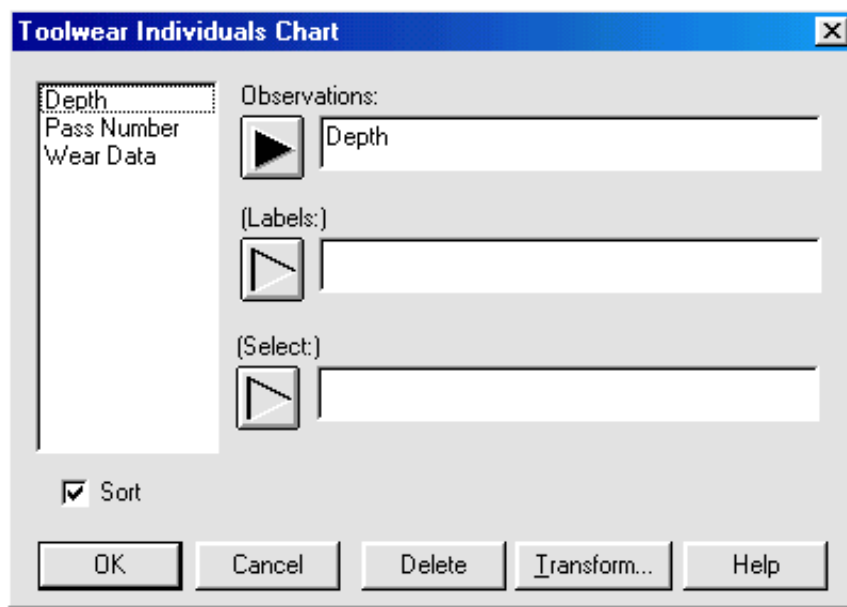

Figure 7-39. Toolwear Individuals Chart Analysis Dialog Box
1. Choose **SPECIAL... QUALITY CONTROL... SPECIAL PURPOSE CONTROL CHARTS... TOOLWEAR INDIVIDUALS CHART...** to display the Analysis dialog box (see Figure 7-39).